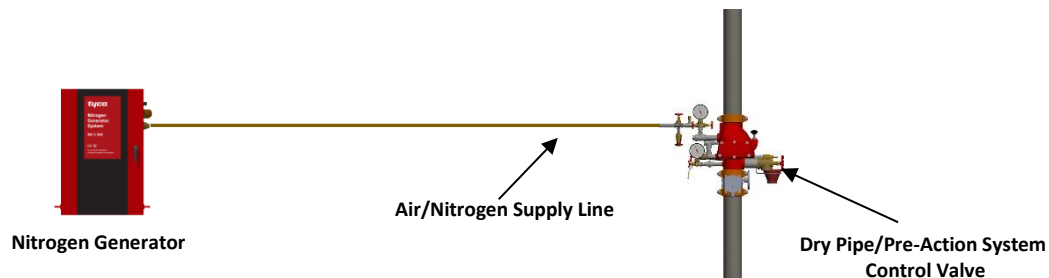

Figure 3a
Step 3a: Plumb the Nitrogen/Air Supply Line – No Additional Air Compressor (Figure 3a)